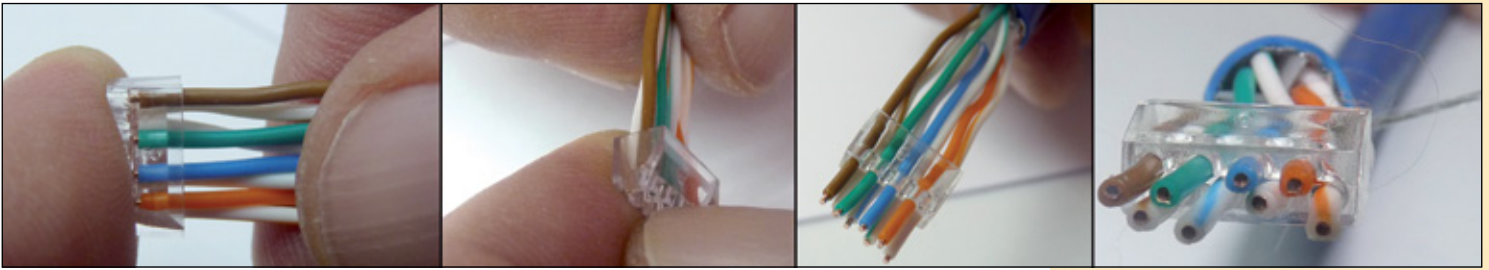

Figure 13
- 10 Proceed to insert the conductors maintaining the order explained above in the **Organizer Insert**, as shown in **Figure 13**.